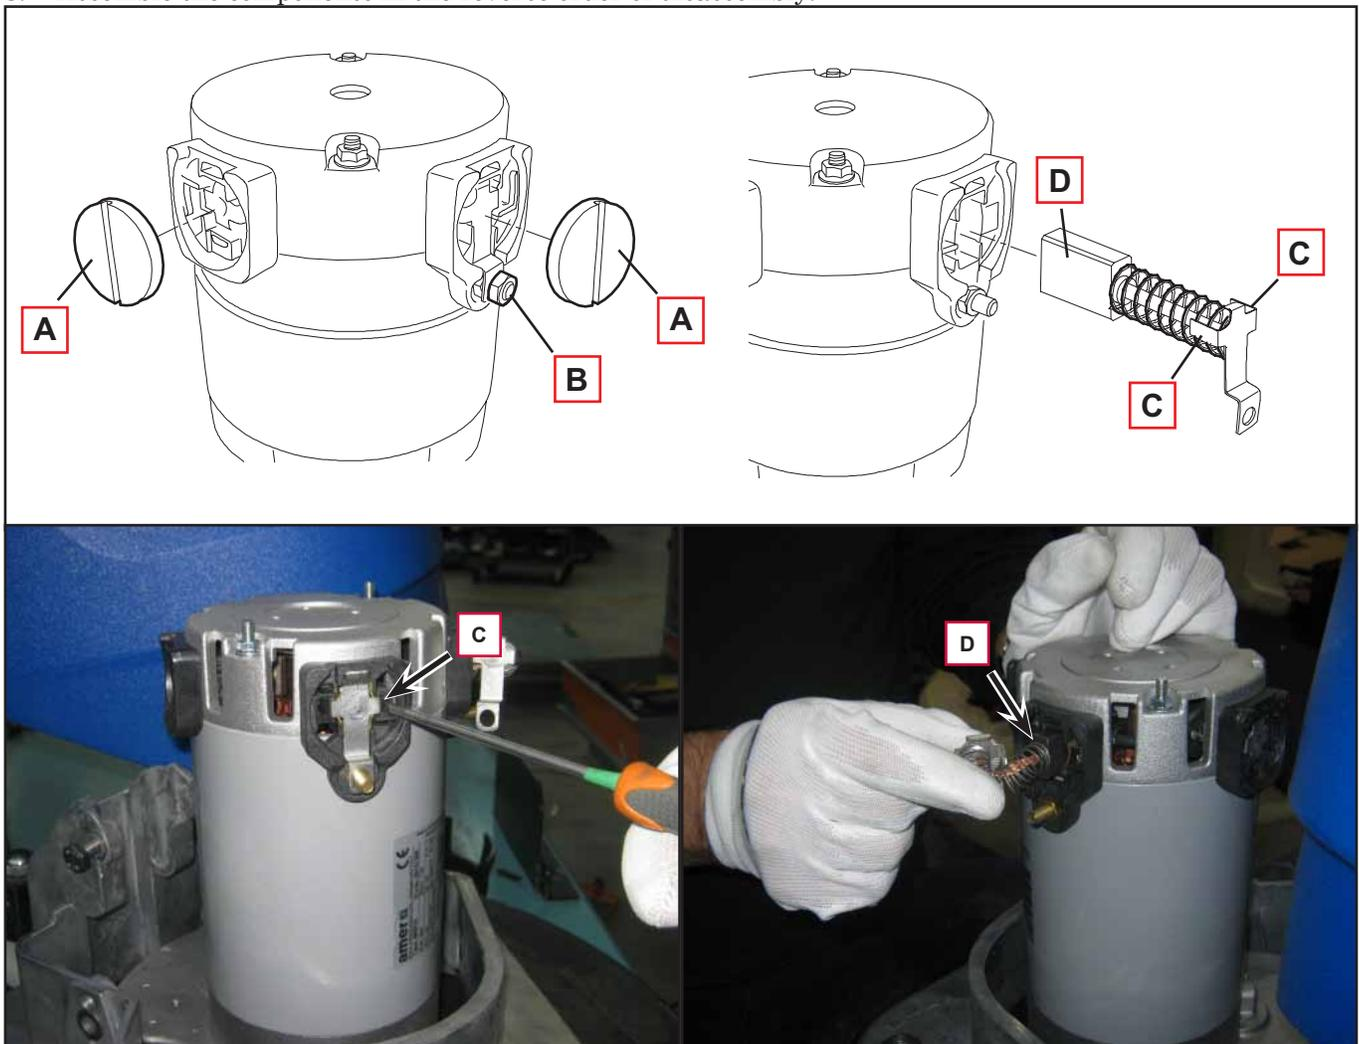

Figure 10
3. Remove the four protective covers (A) (Figure 10) by disconnecting the clips.
4. Remove the carbon brush nuts (B) with the lead-in wires.
5. Disengage the tabs (C) and remove the carbon brushes (D).
6. Check the carbon brushes (D) for wear. The carbon brushes are worn out when: